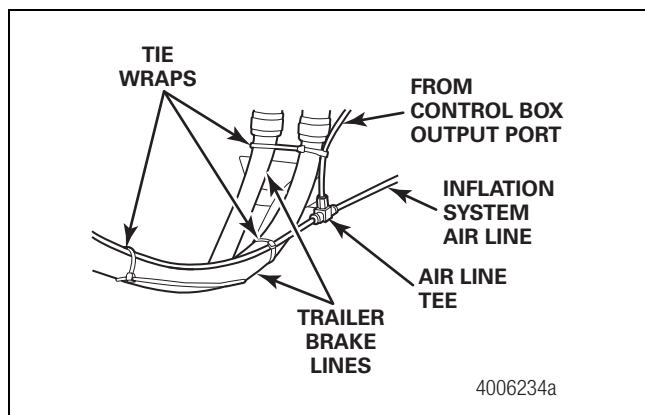

Figure 2.60
2. Route an air line from the control box output port to the air line tee. Suspend the tee AWAY from the trailer brake lines to protect these lines from damage. Figure 2.60. Hand-tighten the air line compression fittings, then use a 9/16-inch wrench to tighten them approximately one additional turn to obtain an airtight seal.